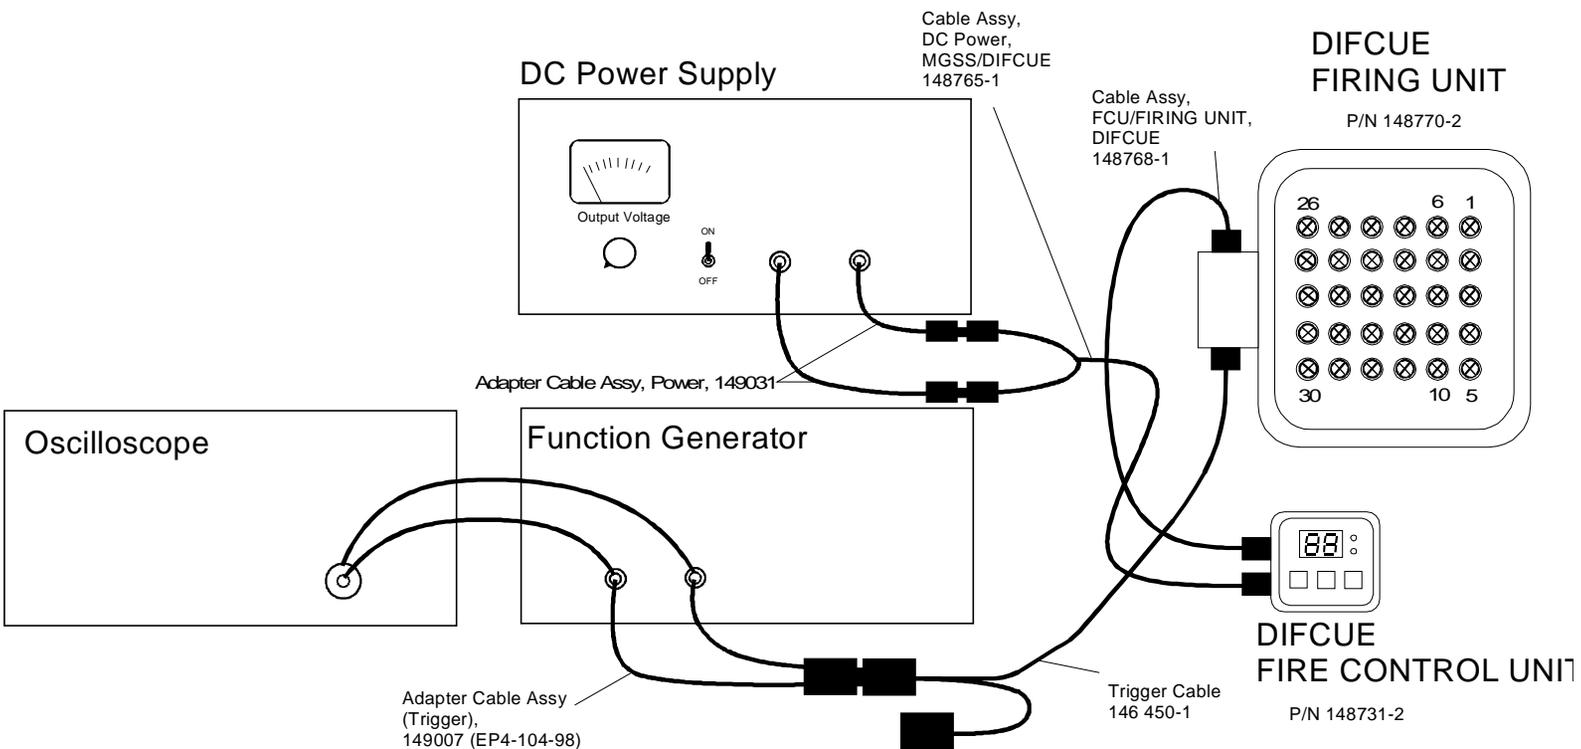

Figure 1-1. Rate of fire, test setup.
1. Establish test setup according to fig. 1-1.
2. Establish all cable connections between the Firing Unit and the function generator and between the Fire Control Unit and the DC supply (fig. 1-1).